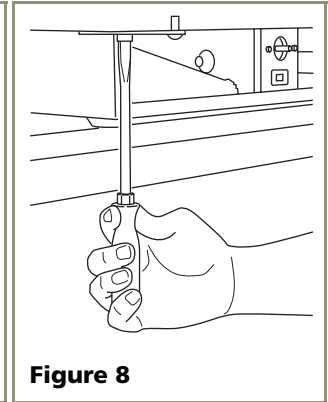

Figure 8
7. Install bottom hinge on cabinet, opposite side, aligning flat edge of hinge with outer edge of unit. Partially tighten screws. See **Figure 8**.